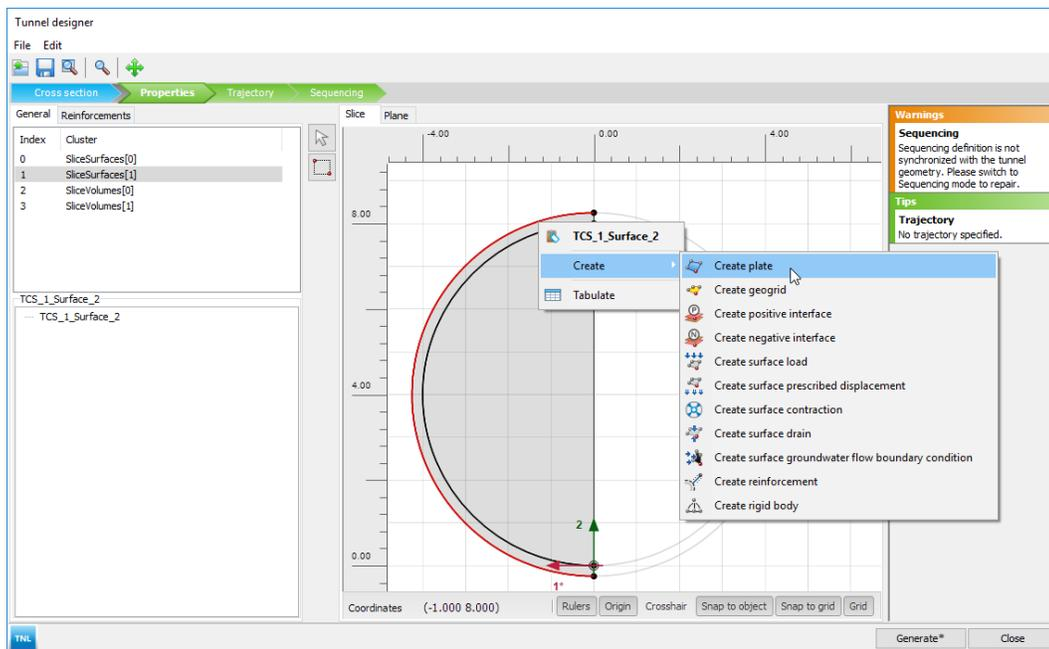

Figure 73: The Properties tabsheet of the Tunnel designer for the creation of a Plate
13. In the **Slice** tabsheet, right-click the outer surface and select **Create plate** from the appearing menu (Figure 73: The Properties tabsheet of the Tunnel designer for the creation of a Plate (on page 97)).